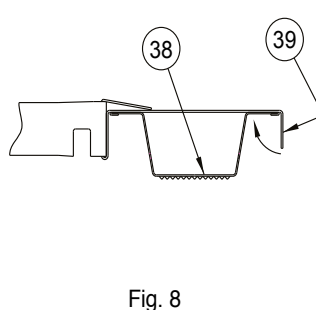

Fig. 8
2. Lift Luminaire (30) to position Furring Channel Brackets over Furring Channels (38) and secure in place by bending Tabs (39) over as shown in Fig. 8.